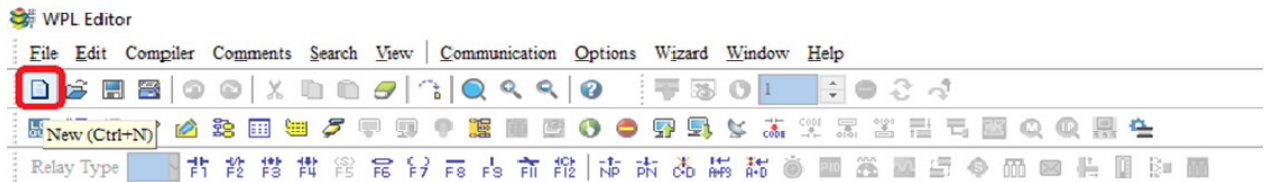

Figure 15-4
Step 3: Click on the  icon on the toolbar: opens new file (Ctrl+N), see figure 15-4 below